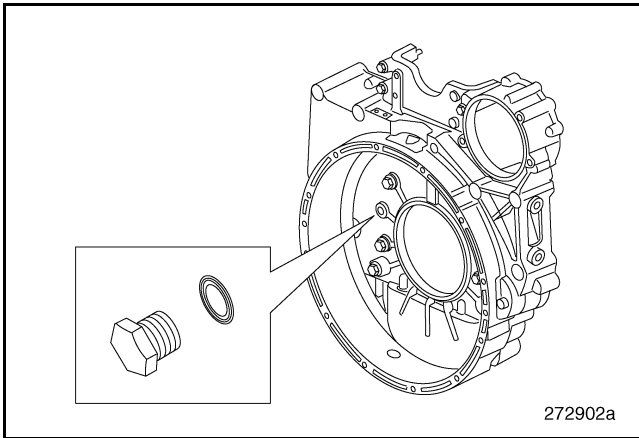

Figure 348 — Flywheel Housing Plug
- Using a 3/4-16 UNF x 11.5 tap, thread the hole indicated in Figure 348.